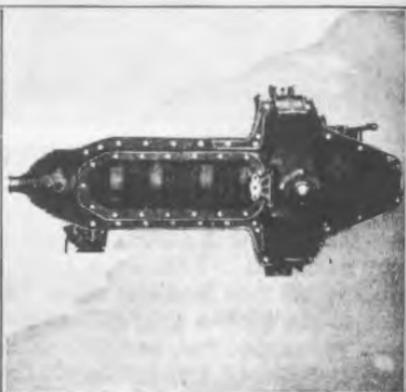

Fig. 275
- (e) Run out the remaining 27 bolts and nuts which hold transmission and cylinder block to crankcase (See Fig. 275).